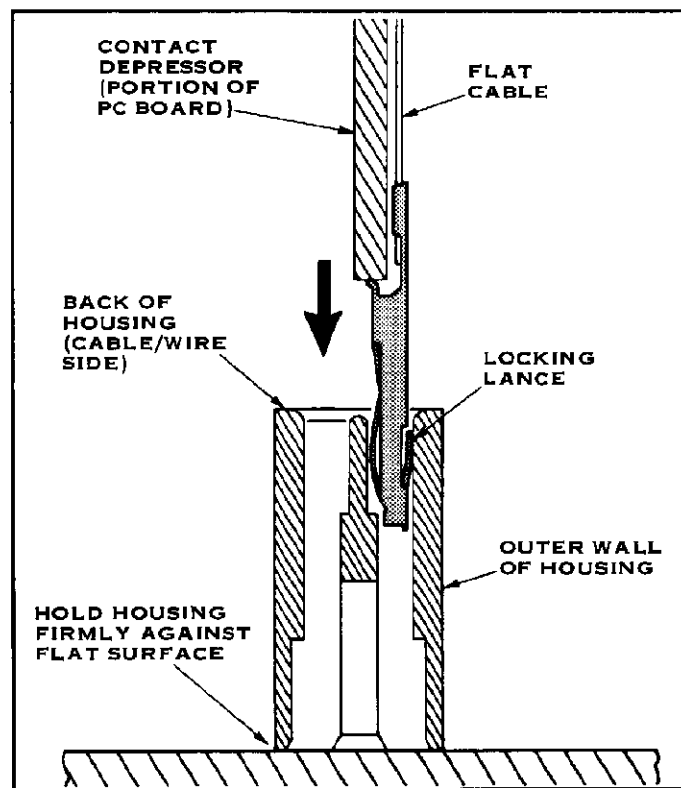

FIGURE 2
1. Place the housing on a flat surface with the BACK (cable/wire side) facing UP, as shown in Figure 2.
2. Align each contact with the applicable contact cavity. Make sure the locking lances are facing the outer wall and start the contacts into the cavities. Insert the contacts only far enough to hold them upright (see Figure 2).